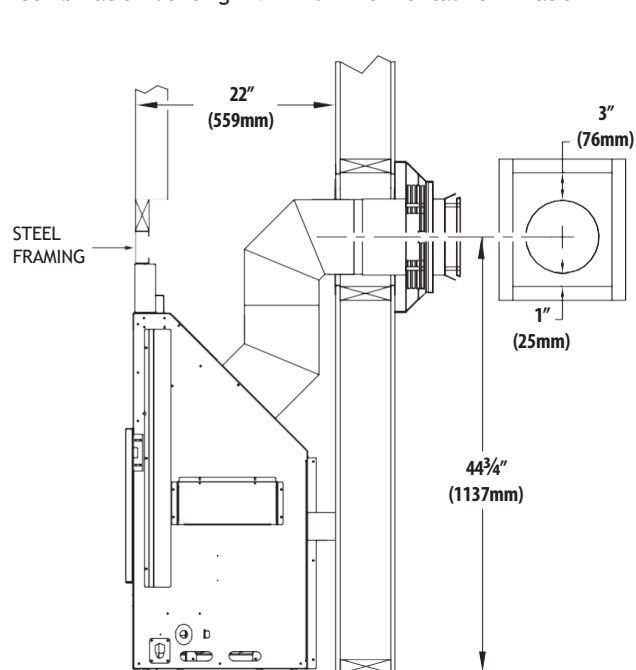

FIGURE 3.7 Horizontal Vent Termination Rough Framing
1. Measure from floor level of the fireplace to the center of where the vent pipe will penetrate the wall. The dimensions in **FIGURE 3.7** is used with a Simpson DuraVent elbow.
- Rigid pipe dimensions in **FIGURE 3.7** reflect Simpson DuraVent 5" x 8" coaxial pipe. Other manufacturers product dimensions may vary.